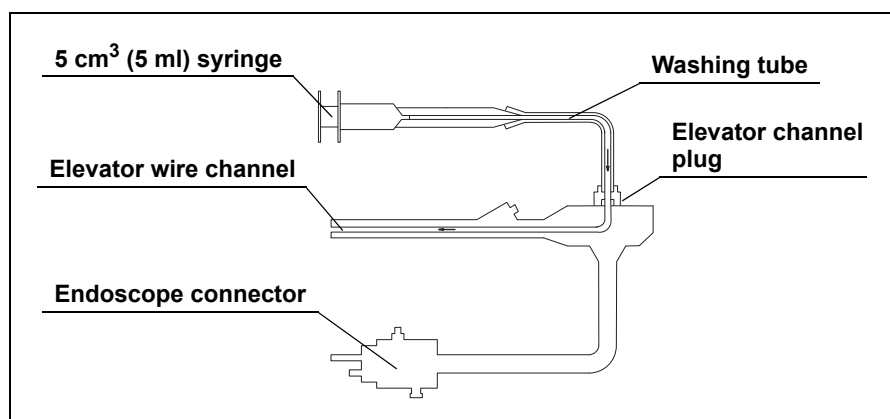

Figure 7.22
3. Use the 5 cm³ (5 ml) syringe, to slowly flush detergent solution through the elevator wire channel several times until no air bubbles exit the distal end (see Figure 7.22).
4. Use the 5 cm³ (5 ml) syringe to slowly flush clean water through the elevator wire channel several times (see Figure 7.22).
5. Use the 5 cm³ (5 ml) syringe to slowly flush air through the elevator wire channel several times until a steady stream of air bubbles exit the distal end (see Figure 7.22).